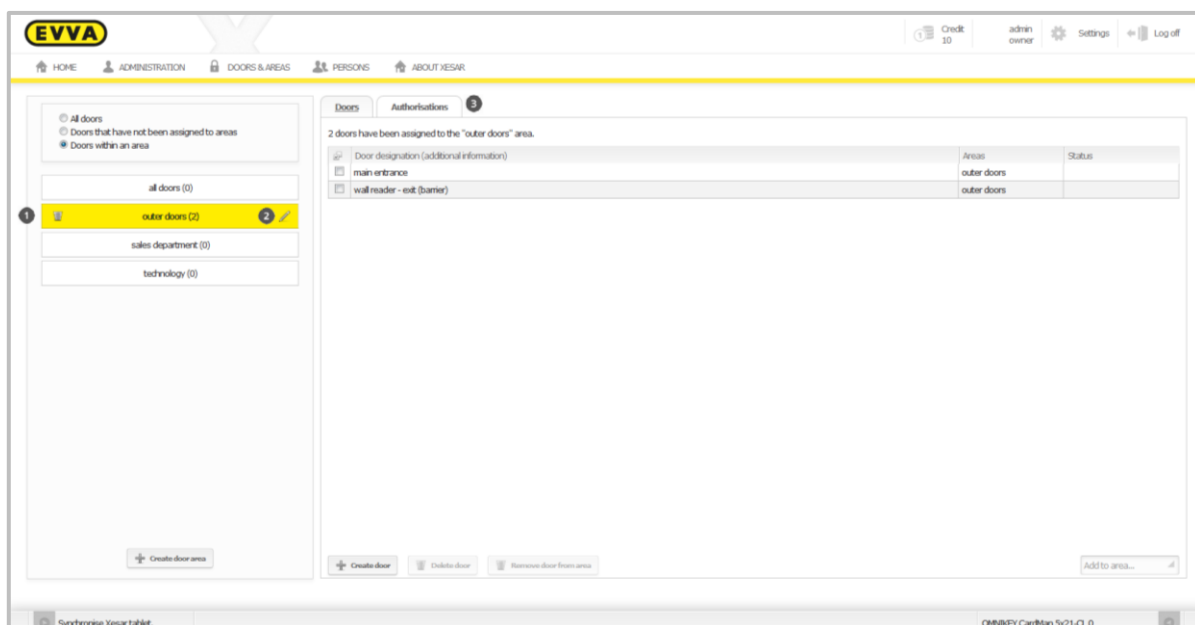

Figure 70: Door area level 2
Door areas will automatically be highlighted in yellow once you have clicked to select them (Figure 70: Door area level 2).
- Then click the pen icon  (Figure 70: Door area level 2).